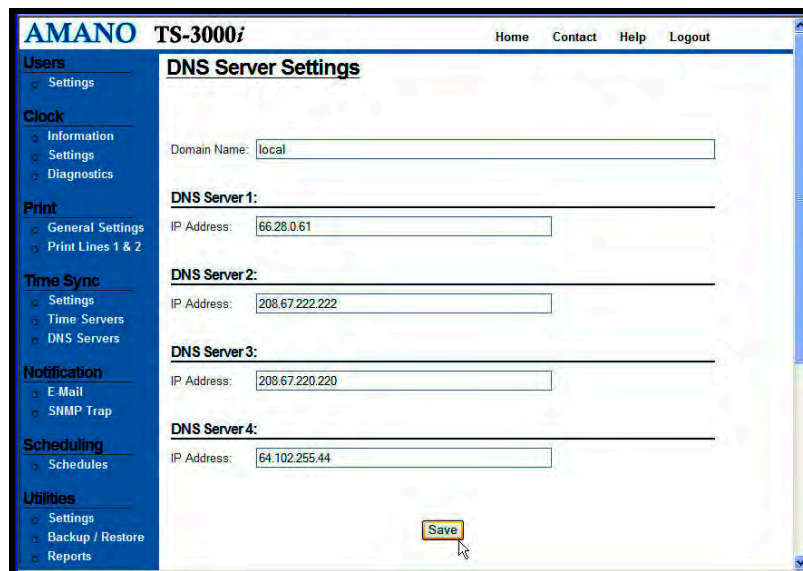

Figure 8-2: Configure DNS Server Settings
- Step 2.** Click on the **DNS Servers** link under Time Sync, and the **DNS Servers Settings** screen will appear displaying the four (4) default public DNS servers (see *Figure 8-2*).